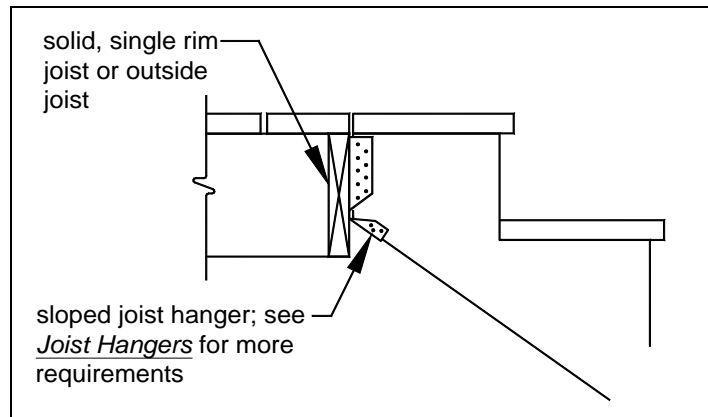

FIGURE 34: STAIR STRINGER ATTACHMENT DETAIL
- Attach stringers to the deck per FIGURE 34.